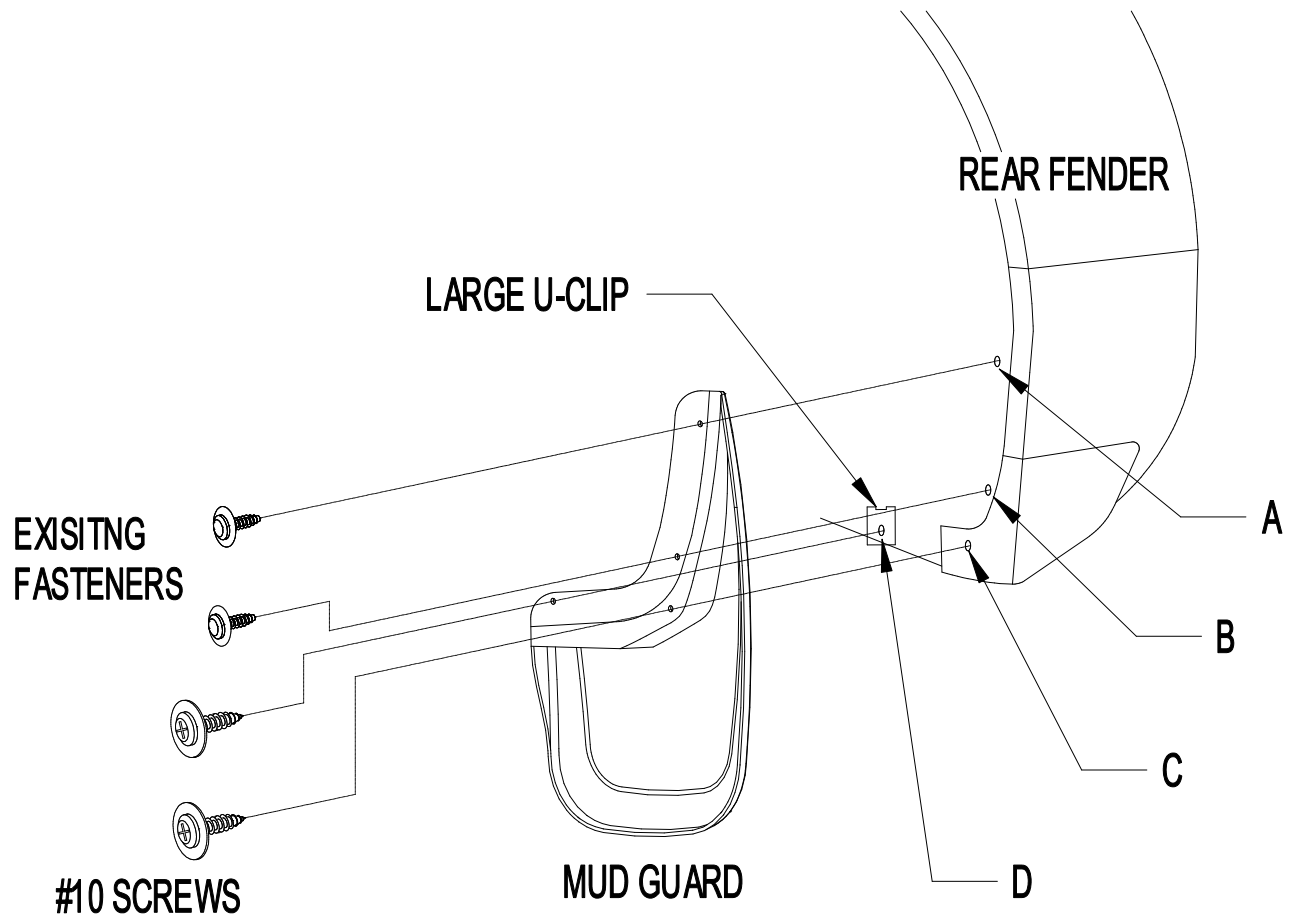

Figure 1
1. Remove the existing fasteners from locations A and B (Figure 1).
4. Install a #10 SEM Screw at location C (Figure 1).